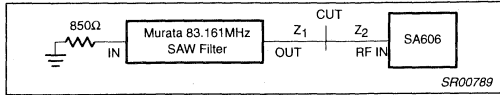

Figure 7. Termination Matching of SAW Filter
- After identifying the impedance of the SAW filter output indicated by  $Z_1$  in Figure 7, the RF input impedance,  $Z_2$ , must be adjusted to provide a conjugate match to  $Z_1$ .  $Z_2$  is found on the Smith Chart by reflecting  $Z_1$  about the purely resistive axis represented by the horizontal line running through the center of the Smith Chart.